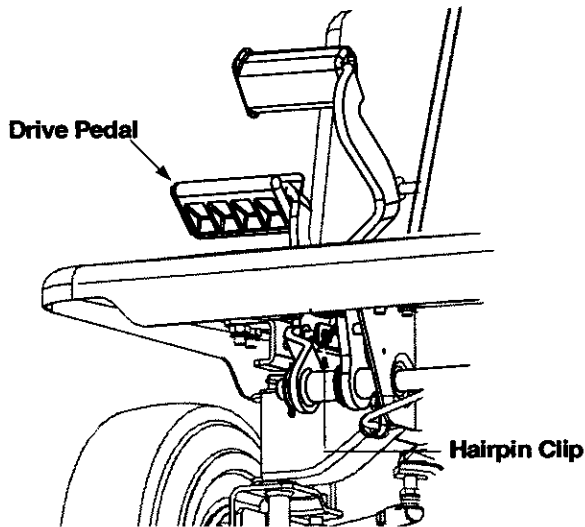

Figure 20
- Remove hairpin clip securing speed control rod to the drive pedal assembly. See Figure 20 .